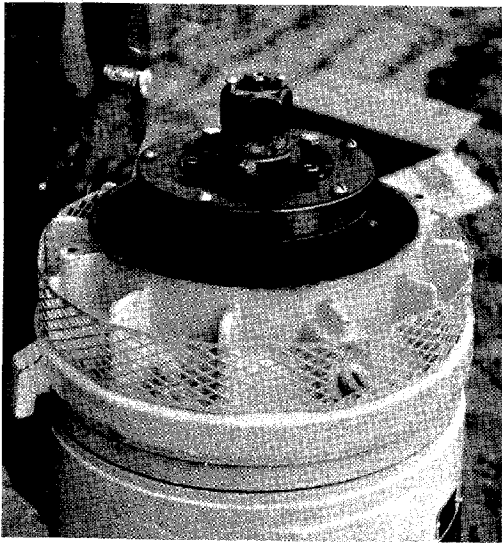

Fig. 15-1. Impeller Adjustment Completed. Lock Screws Shown In Position But Not Yet Tightened.
D. Before any adjustment is made, the impellers will be resting on the lateral bowl wear rings, and considerable resistance due to friction can be felt when turning the shaft by hand. To set the impellers to mid-position, proceed as follows: Screw down the top shaft nut, while restraining the top shaft from turning, until the impellers just clear the seals and the shaft can be turned freely by hand. Scribe a line on the thread of the top shaft flush with the top of the nut. Continue to turn down the nut until the distance from the scribe line to the top of the nut is 3/16 inch plus the shaft stretch previously determined. Turn the nut an additional few degrees, if necessary, to align two of the holes in the top shaft nut with the tapped holes in the top drive coupling. Install the lockscrews in the top shaft nut. (See Fig. 15-1)